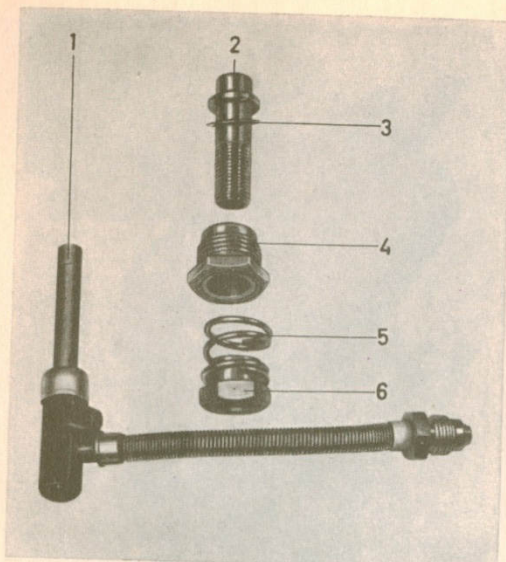

Fig. 1-76. The jet, disassembled
3. Fit the jet sleeve, locknut and adjusting nut, see Fig. 1-76. Slide in the jet and center it. See "Centering the jet".
2. Remove the adjuster nut (6) and the spring (5), Fig. 1-76. Loosen the locknut so that the sleeve can be moved.